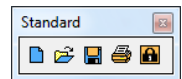

Fig. 316 – the Standard icon bar
- from the main **File menu** select the option **Print project** or click the **Print**  icon on the **Standard** icon bar (Fig. 316);